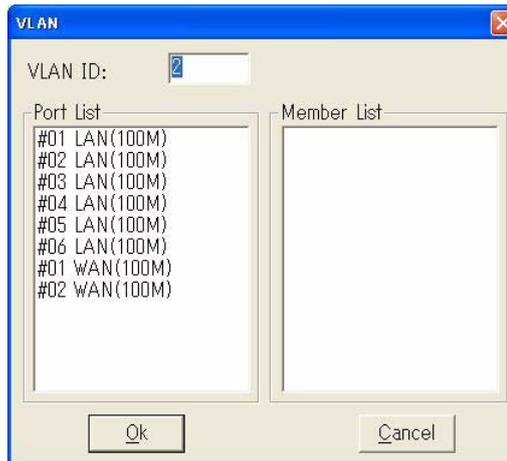

Fig. 4-4-68 Adding VLAN
- 2 Select FE or FEP card in left sub-window, then click **Add** button, *Fig. 4-4-68* appears:
- 2 Select FE card in left sub-window, then click **Add** button. *Fig. 4-4-68* appears.